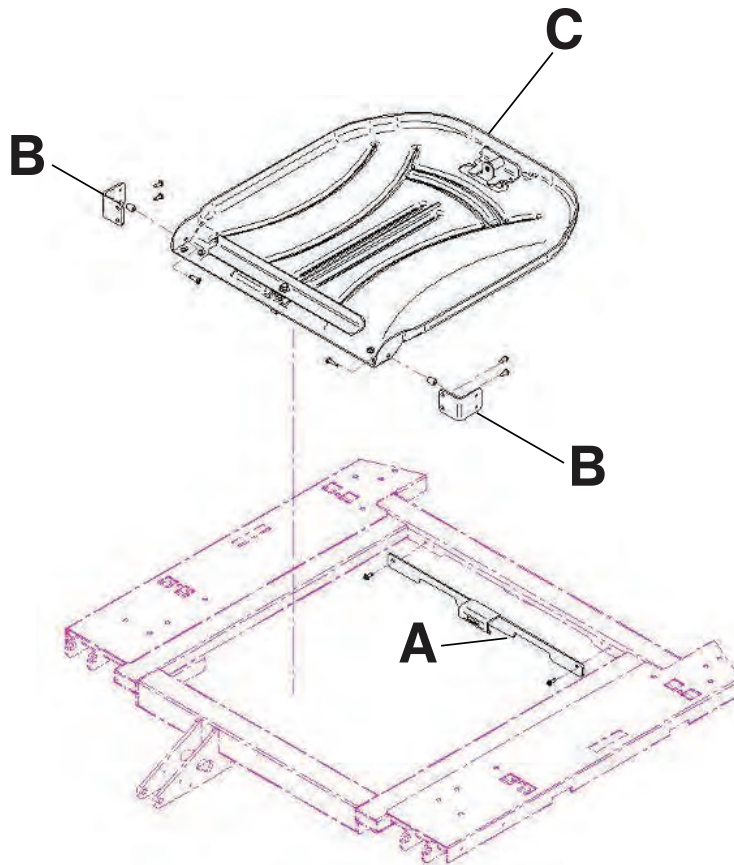

Figure 137: X-ray cassette holder
3. Turn the battery switch to the OFF (O) position.
5. Using a #2 Phillips screwdriver, install two screws to secure the fastener (A) to the top of the fowler frame (Figure 137 on page 116).
6. Using a #2 Phillips screwdriver, install four screws to secure the two cassette holder pivot brackets (B) into the lower fowler section (Figure 137 on page 116).
7. Using a #2 Phillips screwdriver, install two screws and two spacers to secure the X-ray cassette holder (C) into the cassette holder pivot brackets (B) (Figure 137 on page 116).